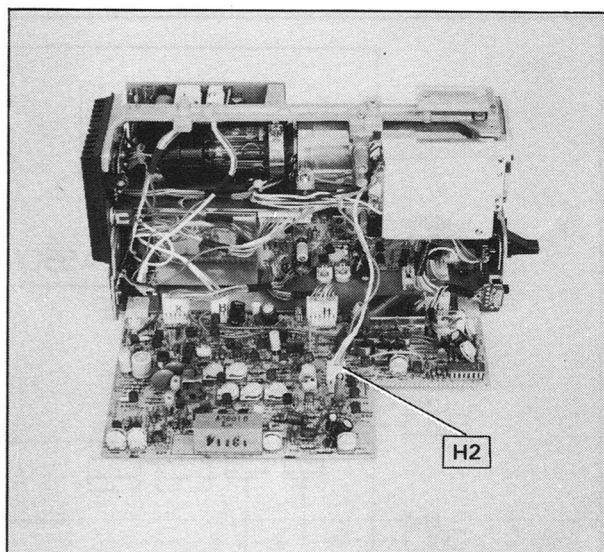

Fig 7.7 Connector **H2** (CA 1501A)
- (2) When horizontal synchronization is required, connector **H2** on the Video Process PCB (CA 1501A), shown in Figure 7.7.